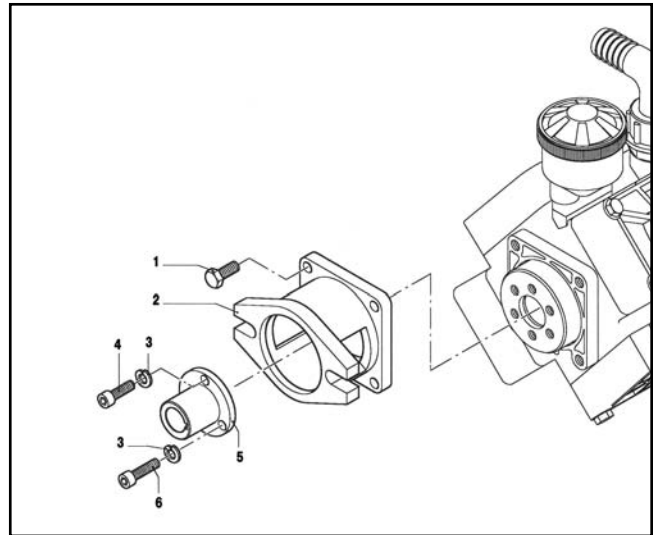

**Figure 1**
3. Remove the bolt securing the diaphragm (see Figure 1).
4. Remove the old diaphragm and the washer (see Figure 1).